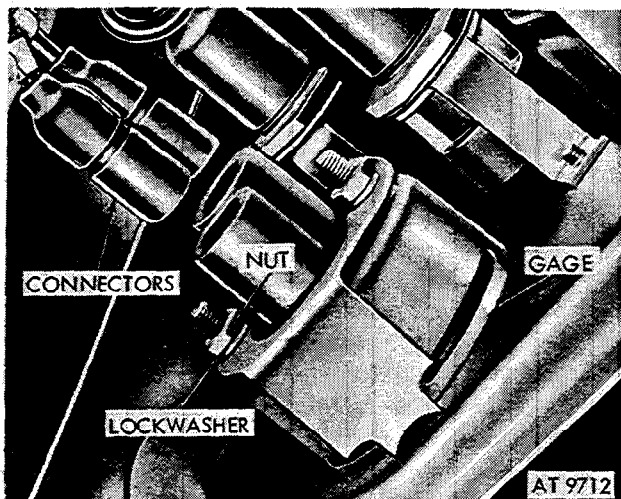

Figure 2-266. Remove oil pressure gage.
(1) Remove instrument cluster (para 2-101). Separate connectors at oil pressure gage (fig. 2-266).
(2) Remove two nuts, lockwashers and bracket securing oil pressure gage (fig. 2-266).